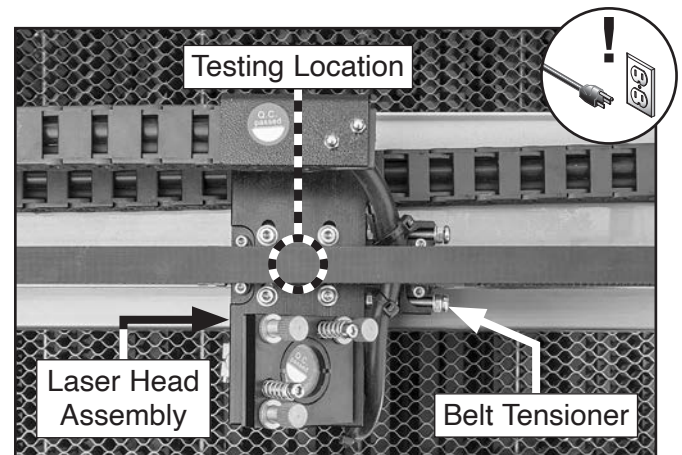

Figure 72. X-axis belt deflection testing location.
3. Test for approximately 10mm of deflection on top side of belt at its center (see **Figure 72**).